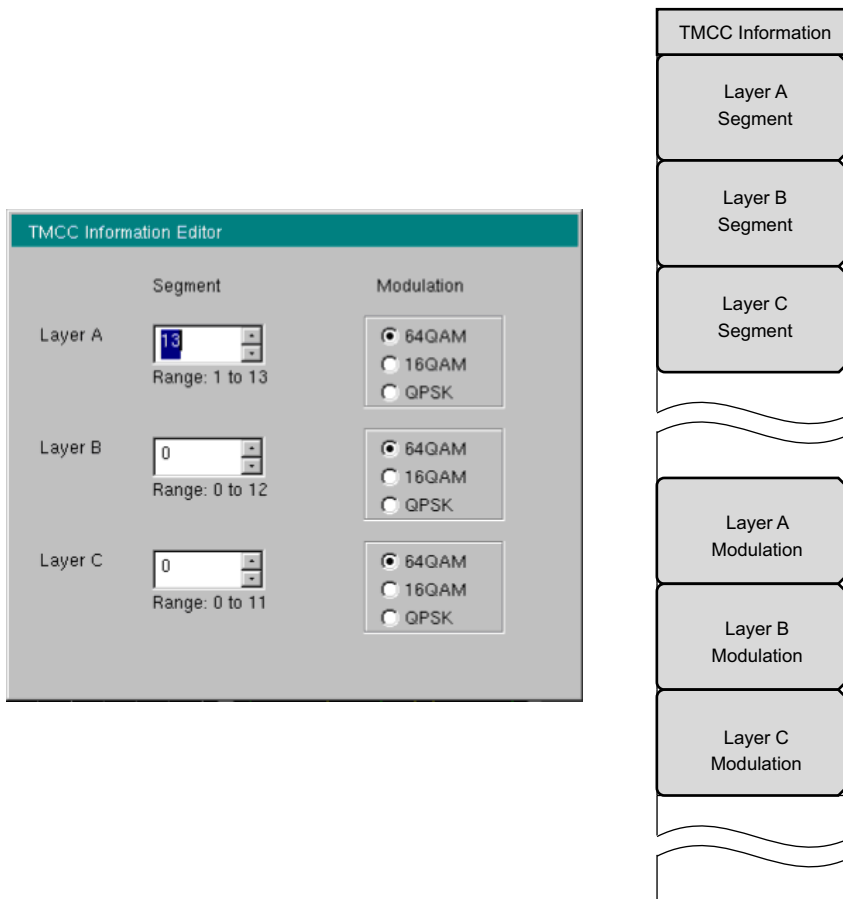

Figure 4-9. TMCC Information Editor Edit Box
8. Press the TMCC Information submenu key to open the TMCC Information Editor dialog box and the TMCC Information menu (example shown in Figure 4-9, your instrument image may differ).
The delay profile and frequency response graphs are displaying the measurement results for a single channel (one segment). Refer also to the TMCC Information Editor dialog box, as shown in Figure 4-9 on page 4-24.